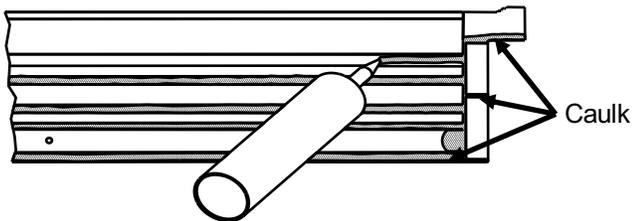
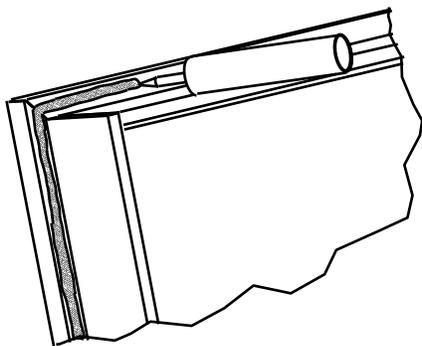

Figure 1a (In-swing)
Figure 1c
**IMPORTANT:** Before setting the door unit into the rough opening, apply generous beads of caulk to the underside of the door sill at locations shown in Figure 1a or 1b, including the plastic jamb adapter and brickmold. Make sure that at least 4 lines of bead seal the full width of the sill. Also apply a continuous and generous amount of bead of caulk to the back side of brickmolds as shown in figure 1c.